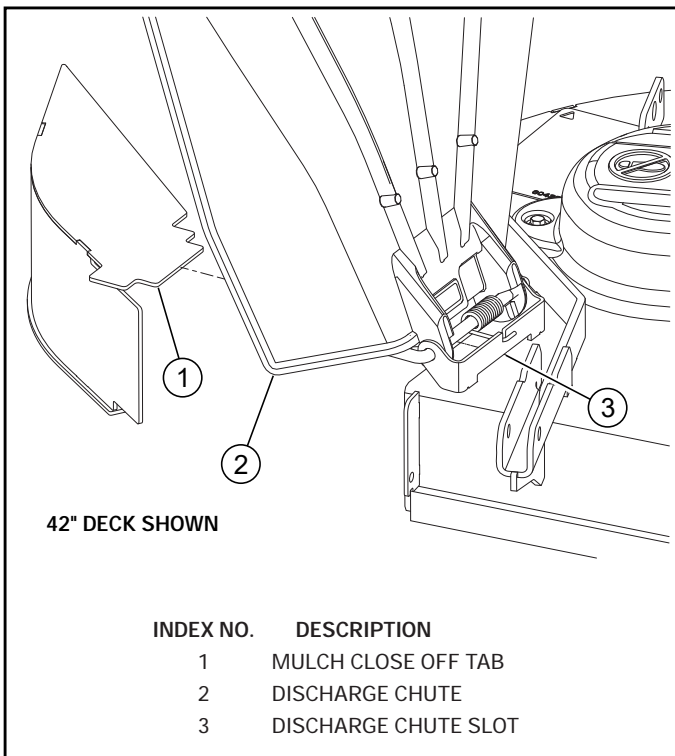
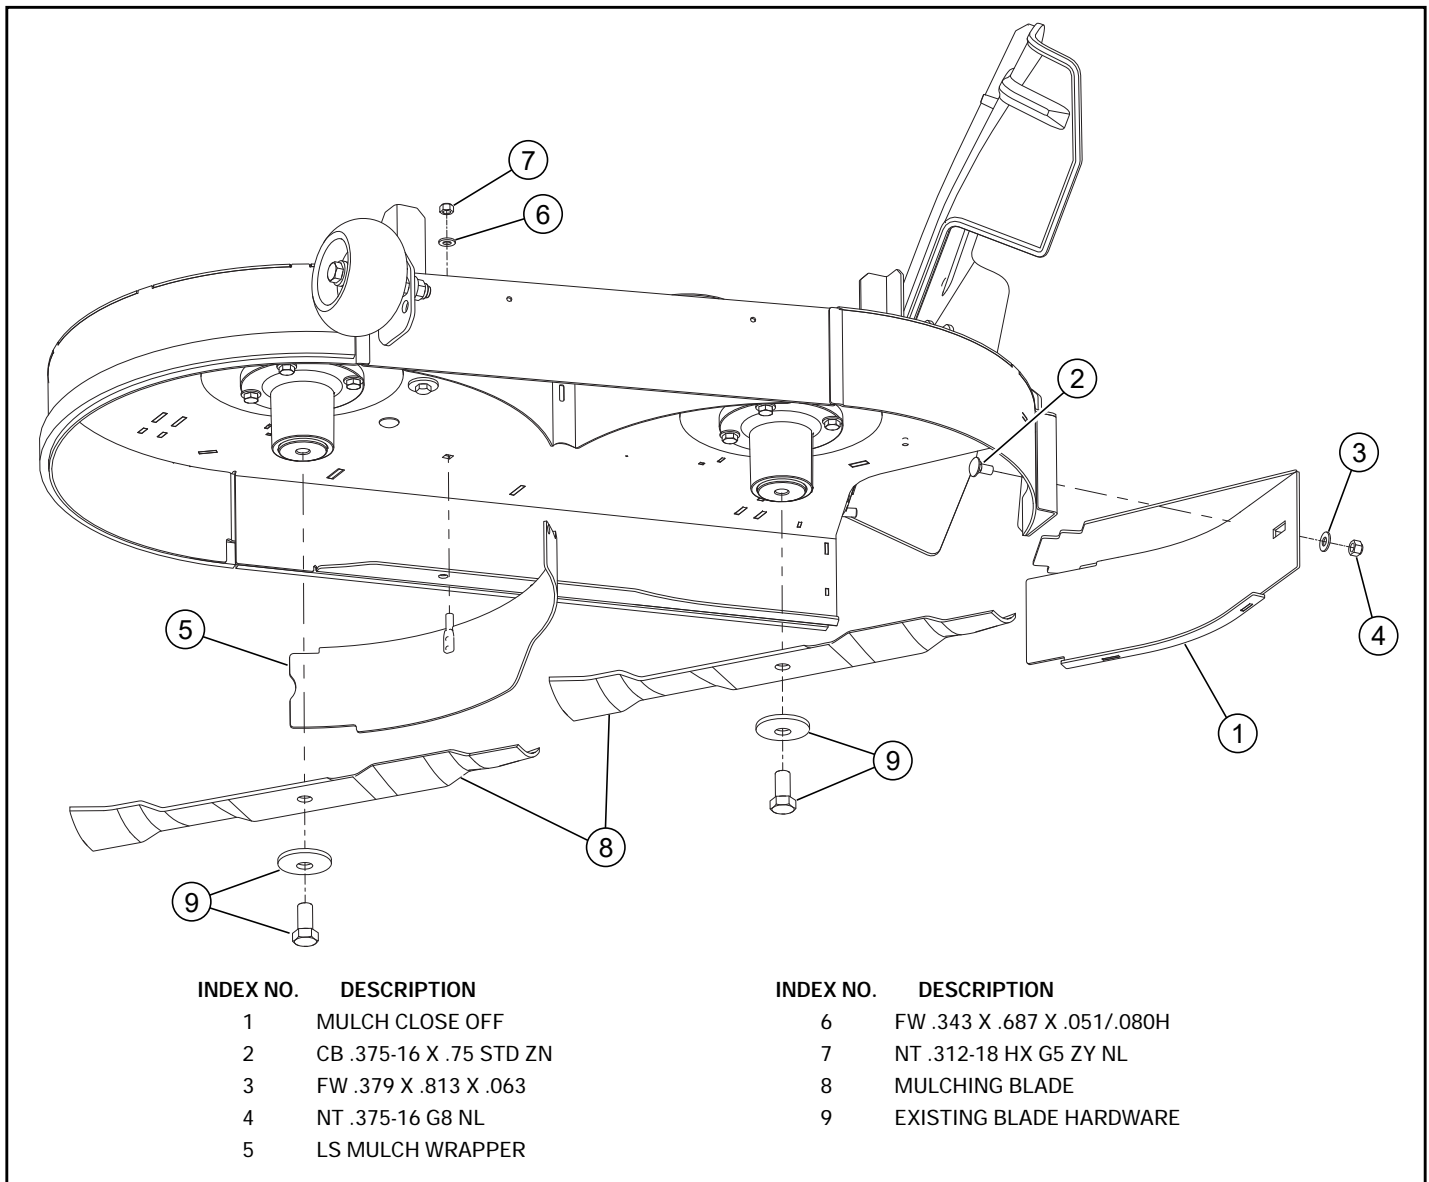

FIG. 3
FIG. 4
5. Install the LS mulch wrapper as shown. Fig. 4
6. Raise the deck discharge chute up. Insert the tab of the mulch close off into the slot of the discharge chute bracket. Secure the mulch close off with the hardware provided. Fig. 3 & Fig. 4
7. Install the mulching blades on the spindles using the existing blade hardware. Torque bolts on spindles to 118 ft-lbs (160 N•m) when installing the blades. Fig. 4